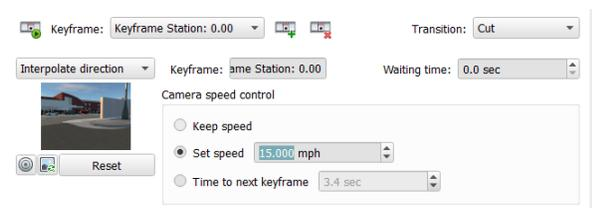

Figure 27
9. Select Keyframe 1. In the Storyboard Keyframe Settings area, change the *Set speed* value to **15 mph**, as shown in Figure 27.